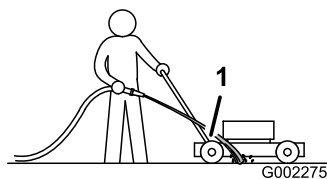

Figure 35
3. Hold the running garden hose at handle level and direct the water to flow on the ground just in front of the right rear tire (Figure 35).